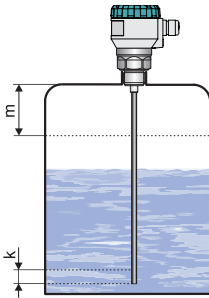

Fig. 3: Dead zone with rod electrode
- In connection with the measurement principle, it is not possible to evaluate electromagnetic waves deflected in the area directly below the level meter and also at the end of the electrode (see fig. 3 and 4). These zones determine either the minimum distance between the level meter and the highest possible level (parameter "m"), or the minimum distance at the end of the electrode (parameter "k"). The level meter must be installed so that when the tank is filled to the maximum and minimum possible level, the surface level is not in the dead zones. In the event that the measured level enters the dead zone, i.e. goes beyond the measuring range, the level meter will enter failure mode, see paragraph Measuring range.